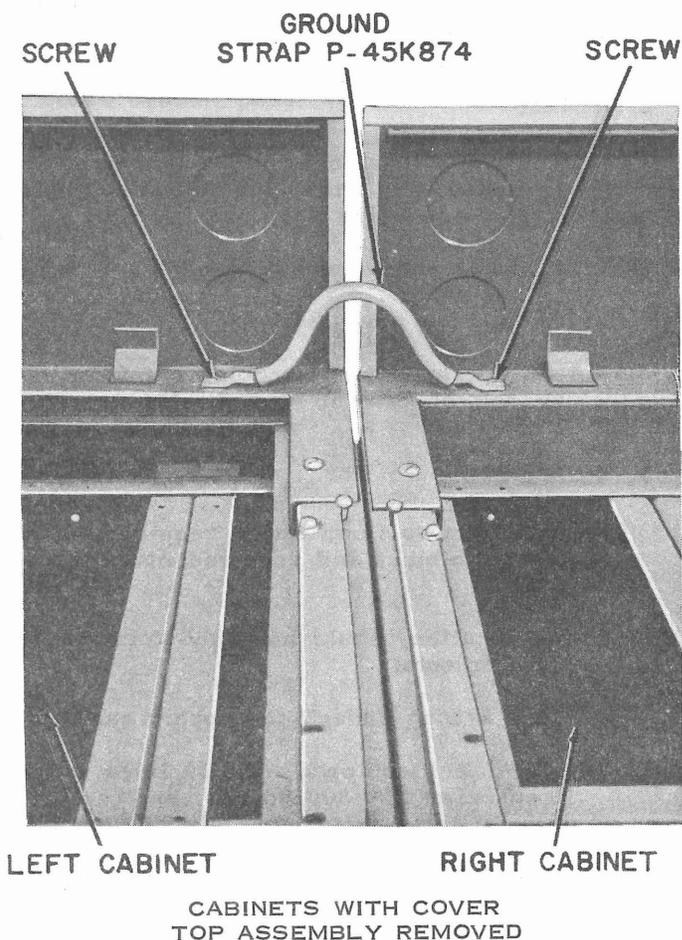

Fig. 3 - Connecting Ground Strap
5.07 To connect ground strap, perform the following steps (See Fig. 3):
- (1) Remove and store the cover top assembly of each cabinet.
- (2) Remove the two screws shown in Fig. 3.